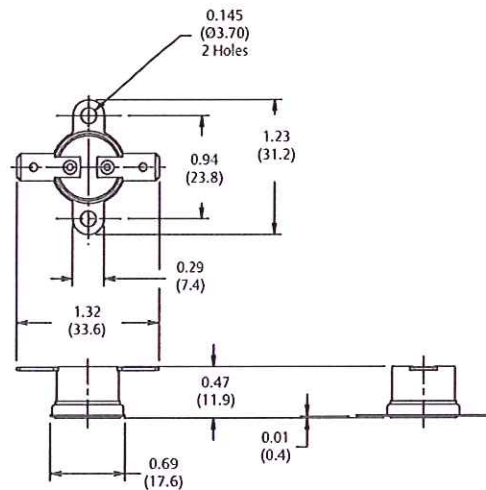

Figure 2
**Surface Mount Bracket** – The bimetal disc sensing element is positioned firmly against the mounting surface so it senses the actual mounting surface temperature (see figure 2). There are many available surface mounting brackets available – typically in either aluminum or stainless steel.